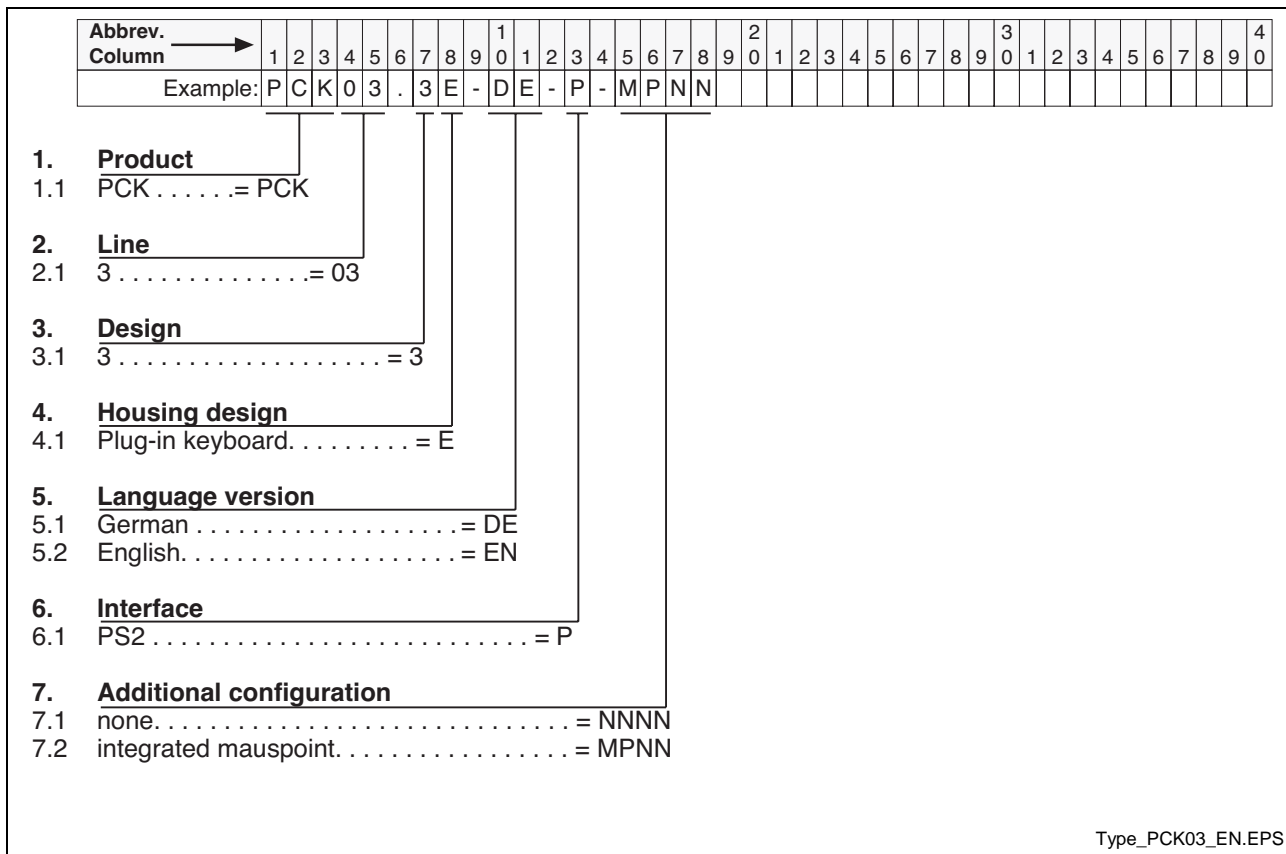

Fig. 8-1: Type code PCK 03.3
- Fig. 8-1: Type code PCK 03.3 8-1